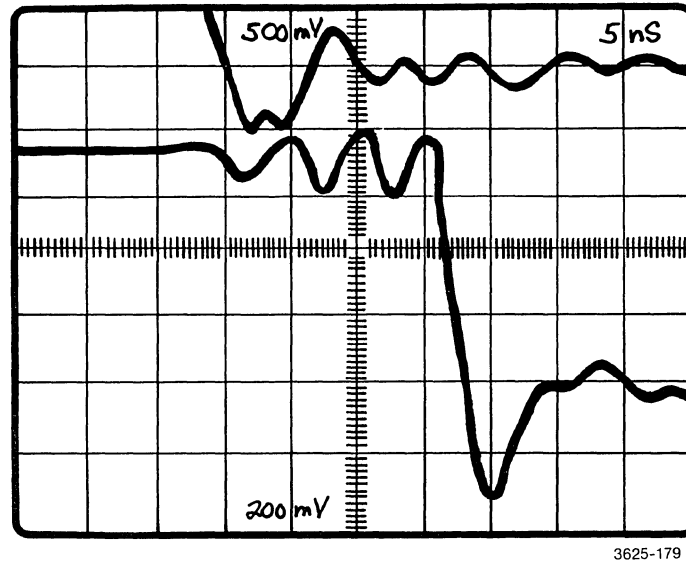

Figure 5-59. 91A08 clock delay adjustment waveform.
9. Adjust each channel of the oscilloscope so each of the two waveforms is centered around a horizontal graticule line. See Figure 5-59.